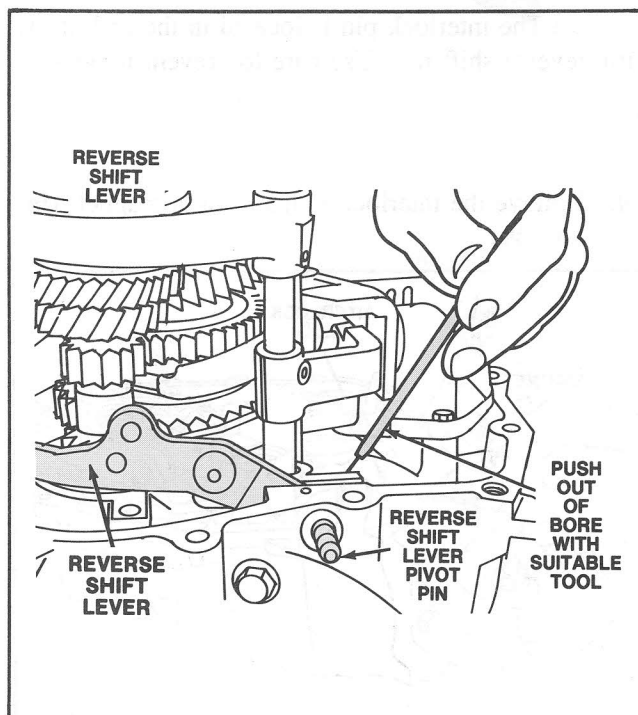

Figure 43 Pivot Pin Removal
13. Remove the pivot pin and the reverse shift lever. (Figure 43).